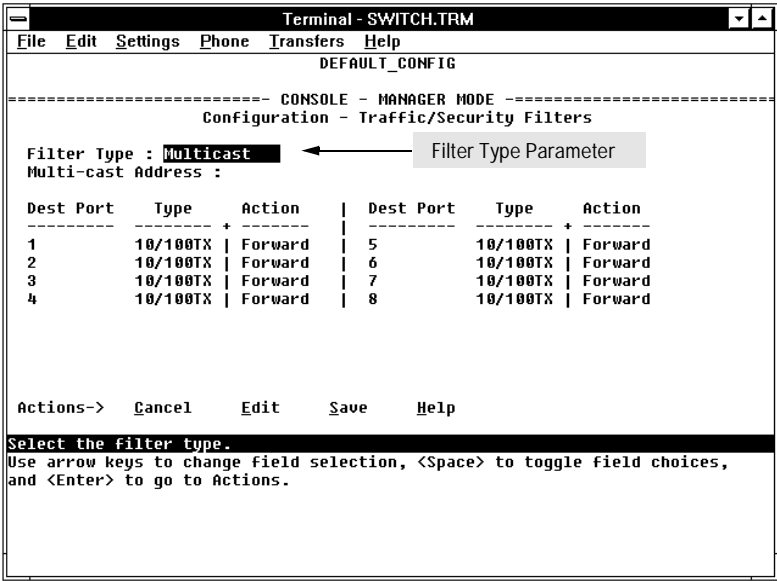

Figure 7-6. Example of the Traffic/Security Filters Configuration Screen
3. In the Actions line, press **A** (for **A**dd) to display the Traffic/Security Filters Configuration screen shown in figure 7-6.